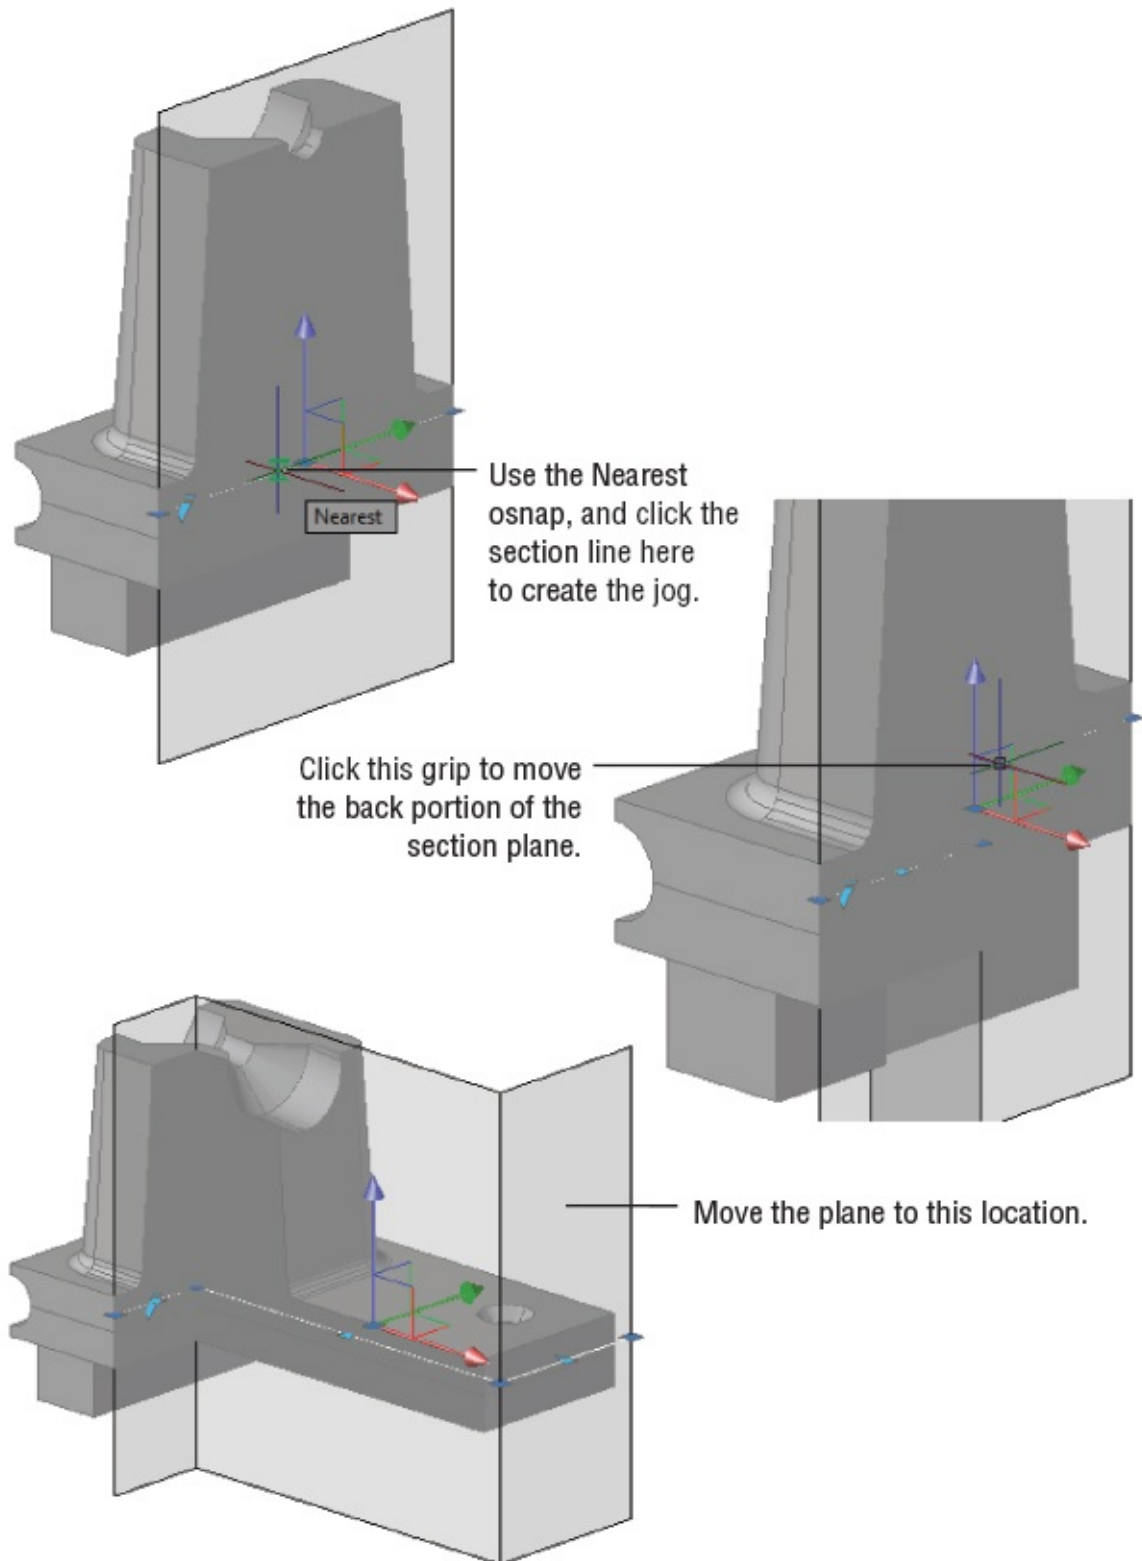

FIGURE 22.51 Moving the jog in the section plane
3. At the Specify a point on the section line to add jog: prompt, use the Nearest object snap to select a point on the section plane line (see Figure 22.51).
image of Figure 22.51, and drag it toward the right so that the jog looks similar to the third panel in the figure.